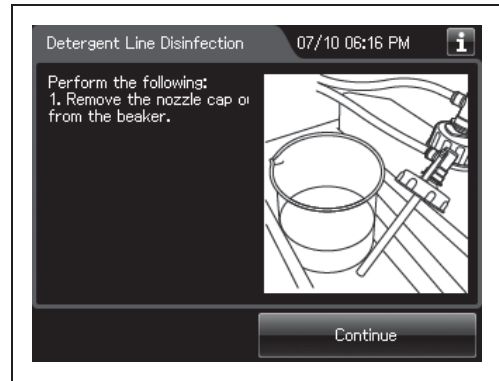

Figure 7.87
- 25** When the touch screen display changes as shown Figure 7.87, take the nozzle of detergent cap out of the beaker.